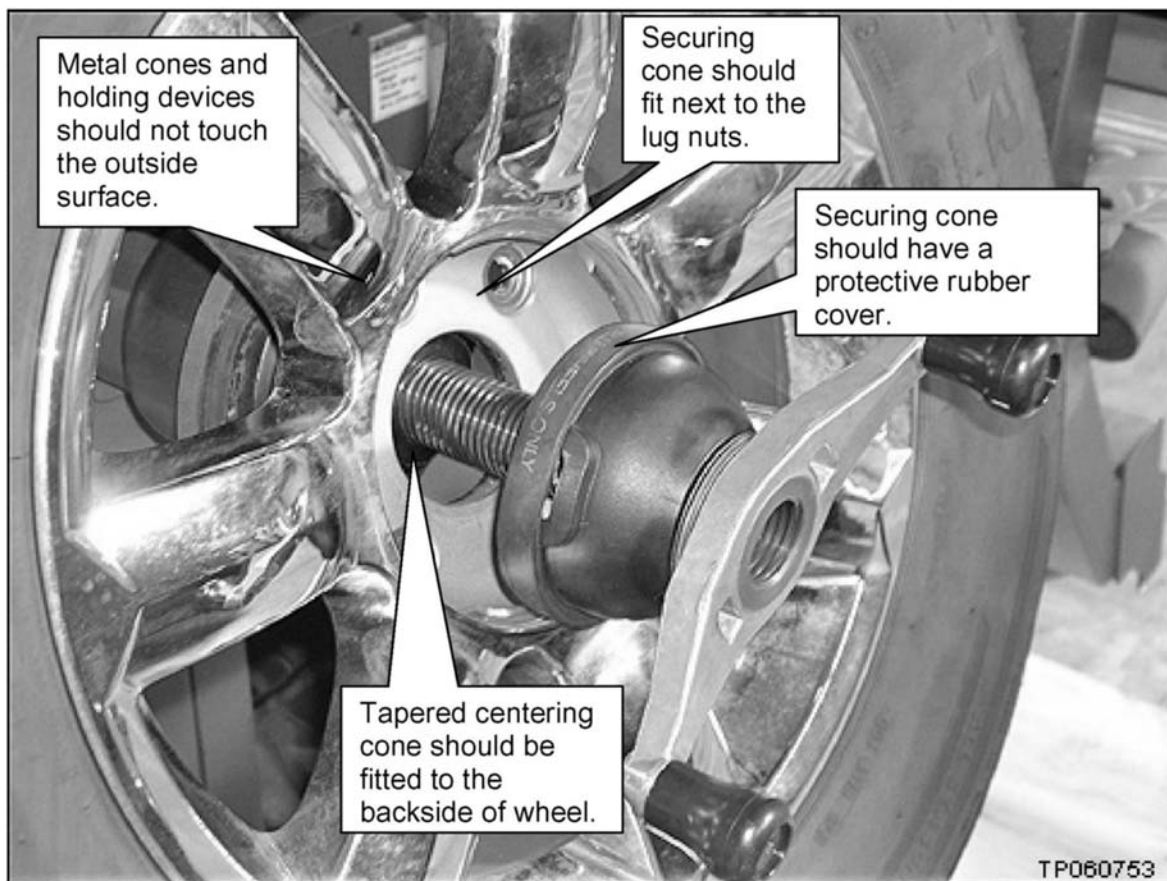

Figure 2
**Rotor Run Out:** If the brake rotor is not true to the hub center, the brake pads contact one point on each side of the rotor with each wheel rotation, even if the brakes are not applied. Over time, this point contact will cause the rotor to wear more in these areas and cause rotor thickness variation (see Figure 2).